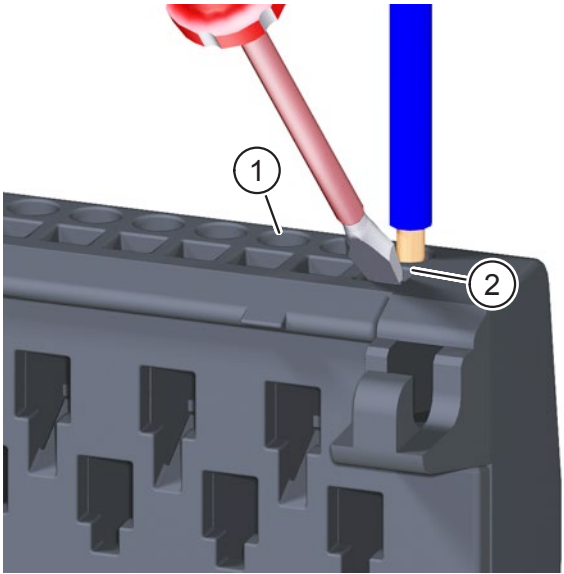

Fig. 5: Wire the backplane
- ▶ Wire the backplane as described in the installation specifications. The openings for the push-in terminals (item 1 in Fig. 5) are at the top and bottom of the backplane. The labels on the backplane show the terminal assignments.
- ▶ Insert the rigid wire or ferrule into the round opening of the push-in terminal (item 1 in Fig. 5) as far as it will go.
- ▶ Insert the screwdriver from the front into the square opening (item 2 in Fig. 5) at a 45° angle.